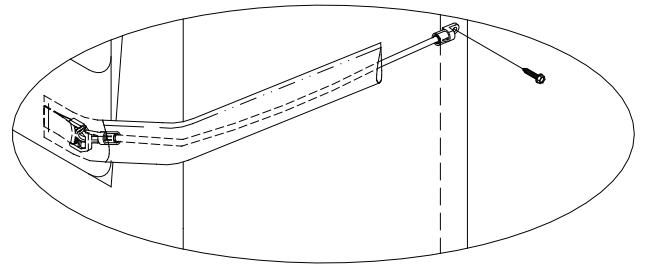

FIGURE 2
1. Locate the windstrap attachment rings on each front end edge of the head curtain. (See Figure 2)
4. Using the supplied screws attach the eyelet end of the windstrap to the backer board of the side member. There should be some slack in the windstrap after installation. (See Figure 2)